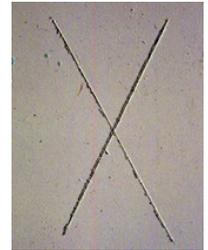

Figure 1
2. Using the sharp cutting tool, make two cuts in the film, each about 1.5 inches (40 mm) long, that intersect near their middle with a smaller angle of 30-45°, forming an X. When making the incisions in the film, use the straightedge and cut through the coating to the substrate in one steady motion. (**Figure 1**)